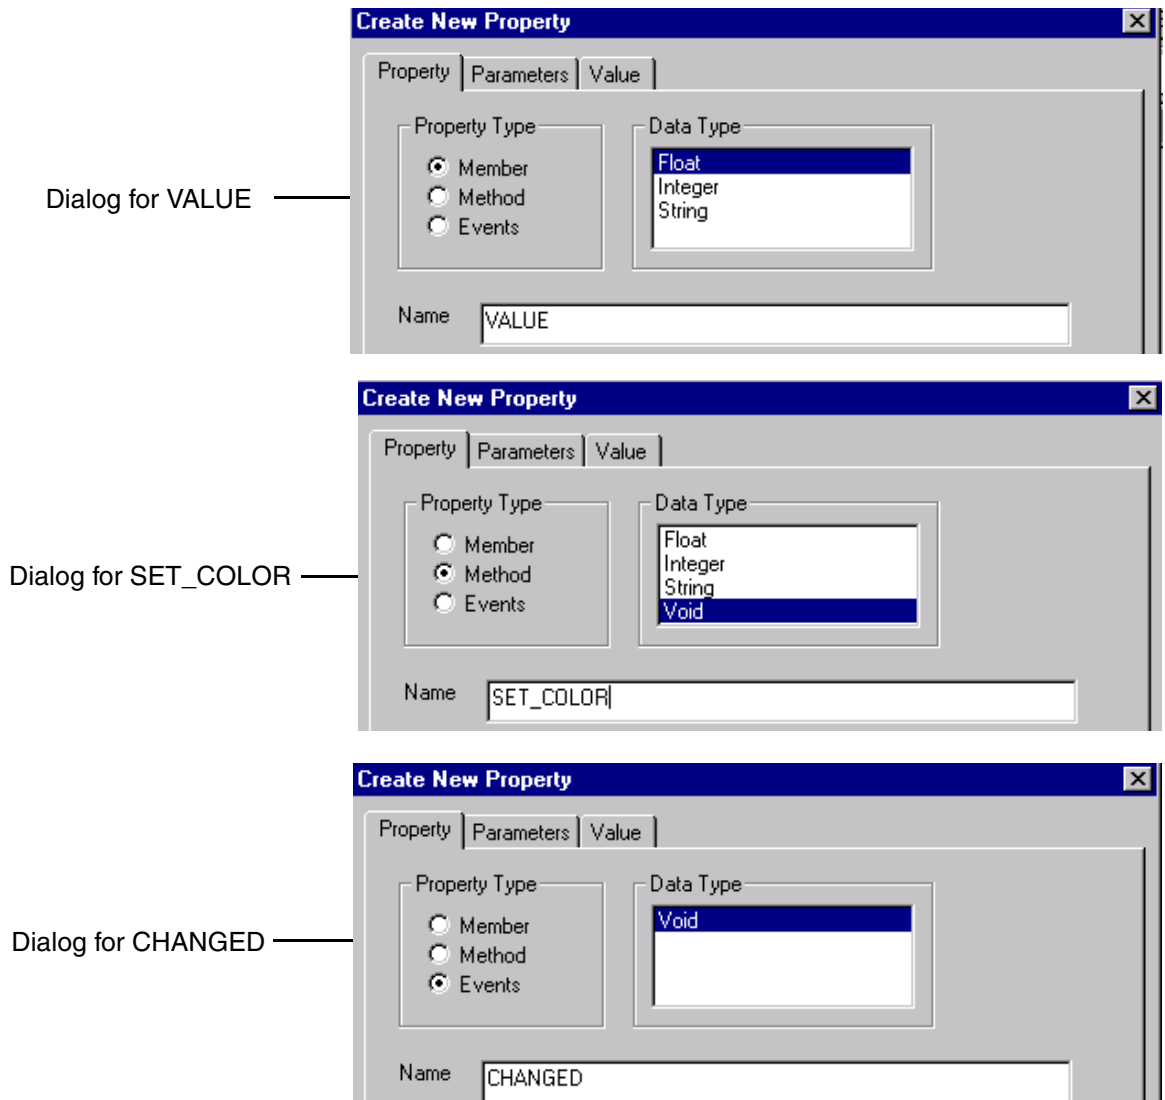

Figure 144. Dialogs for Adding VALUE, SET COLOR and CHANGED Properties
- 2. Repeat steps *c*, *d*, and *e* to add the VALUE (Member-Float), SET_COLOR (Method), and CHANGED (Event) properties to the AI TEST user element. Their respective functions are described in User Element Tutorial on page 232. The Create New Property dialog for each new property is shown in Figure 144.